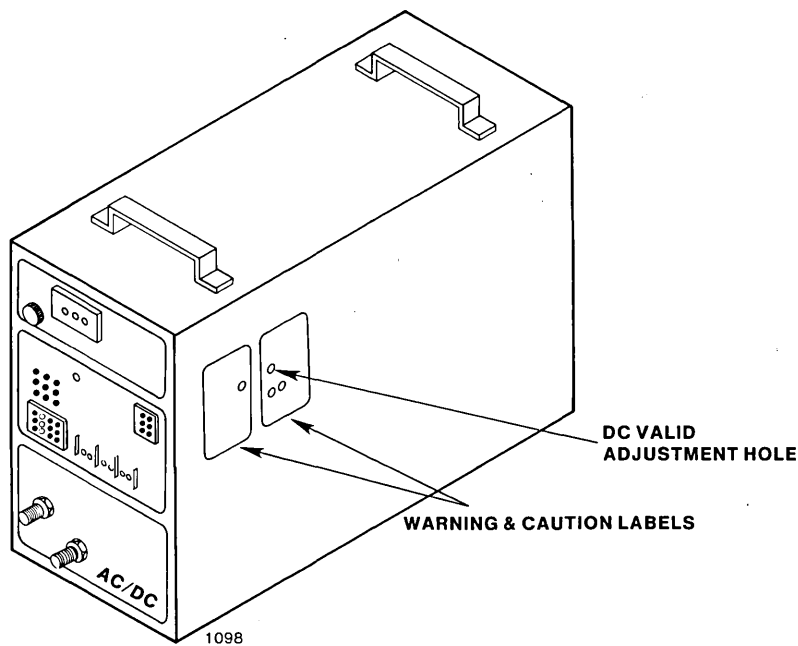

Figure 5-2. DC Valid Adjustment Location On Processor Chassis Power Supply
4. Locate the DC VALID adjustment hole on the inner face of the power supply box, as shown in Figure 5-2. A warning label is placed over the top of the adjustment; read and heed.